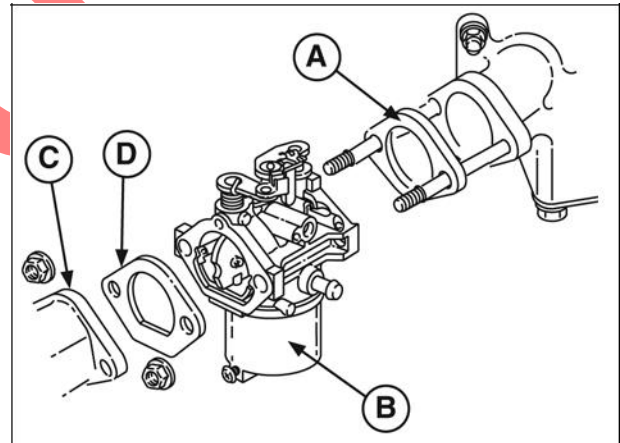

Figure 21
1. Assemble insulator (A, Figure 21) with gaskets, carburetor (B), and air horn (C) with gasket (D) to intake manifold.